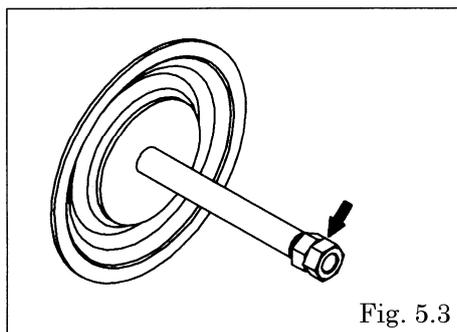

Fig. 5.3
- Remove the center disk and diaphragm from the opposite side using the double nut. [Fig.5.3]